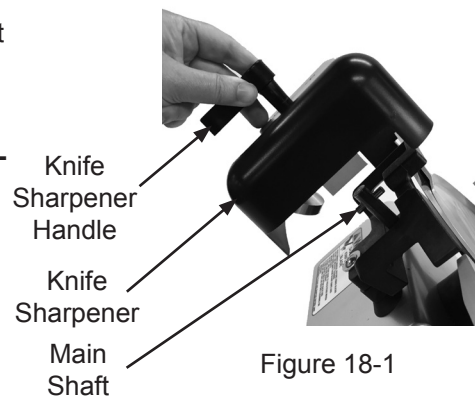

Figure 18-1
1. Pull knife sharpener up by its handle to remove it from slicer (Fig. 18-1).